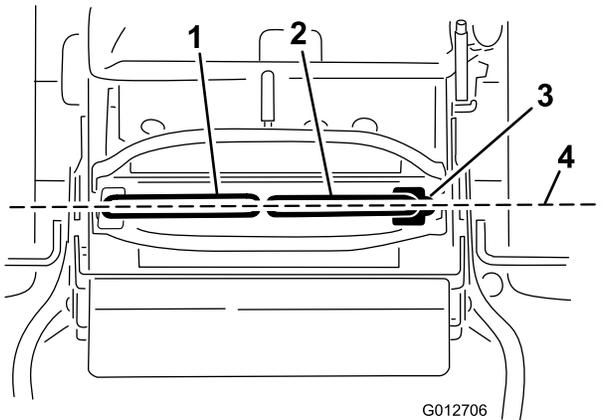

Figure 70
Important: Ensure the tracking of the mower is correct after adjusting the motion-control levers. Adjusting the tracking and aligning the motion-control levers front to back is the same procedure (Figure 70).
1. After the horizontal alignment is finished, check the front to back alignment by slightly pushing the control levers forward to take up any slack in the linkage for the control levers (Figure 70).